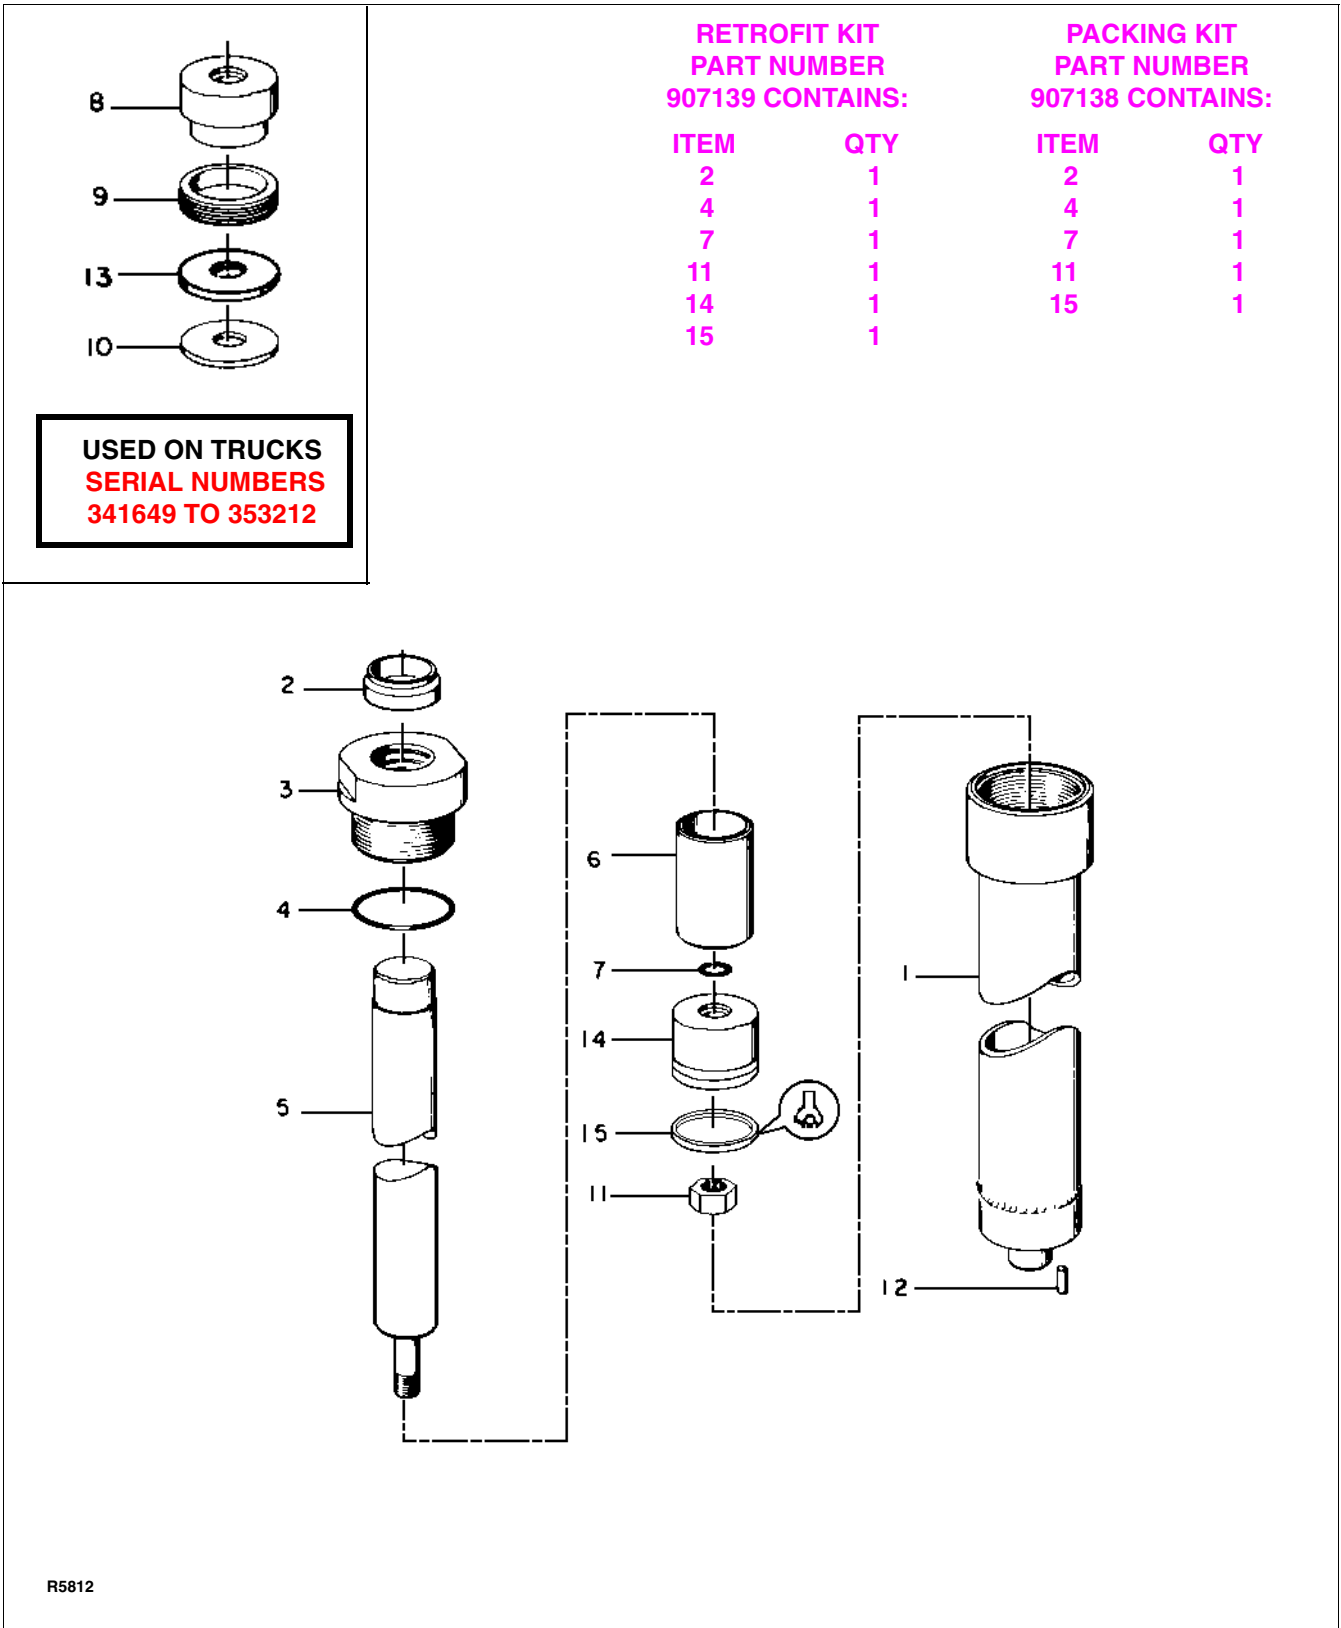

Figure 6-8 Lift Cylinder (Tel)
1. Secure the lift cylinder in the vise and remove the gland nut (3, Figure 6-8), wiper ring (2), and O-ring (4).
2. Pull the cylinder ram (5) out of the lift cylinder.